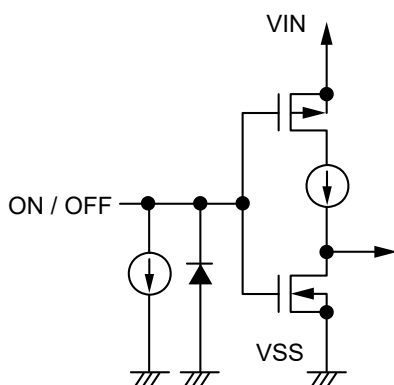
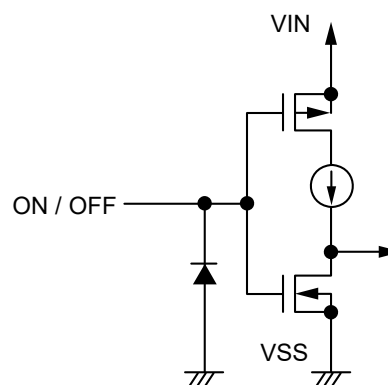

Figure 18 S-1313 Series A / C type
Figure 19 S-1313 Series B / D type
Note that the current consumption increases when a voltage of 0.25 V to $V_{IN} - 0.3$ V is applied to the ON / OFF pin. The ON / OFF pin is configured as shown in **Figure 18** and **Figure 19**.
*1. Note that the IC's current consumption increases as much as current flows into the constant current of 0.1 μ A typ. when the ON / OFF pin is connected to the VIN pin and the S-1313 Series A / C type is operating (refer to **Figure 18**).